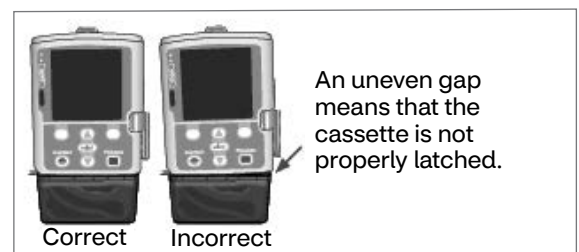

Figure 5: Attaching the cassette
5. Lift the cassette latch into the closed position. **DO NOT FORCE THE LATCH.** Make sure that the cassette is attached correctly. The cassette should line up evenly with the bottom of the pump. If the cassette is attached incorrectly, there will be an uneven gap between the cassette and the pump. See Figure 5.